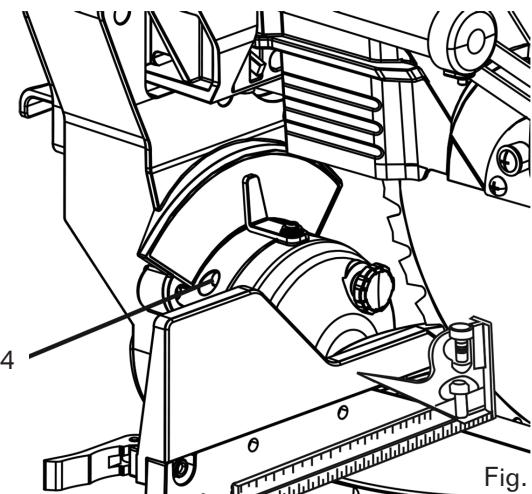

Fig. 16
5. If the blade is not 33.9° to the miter table, tilt the cutting arm to the right, turn the hex bolt (4) at the rear of the saw in or out with a 3 mm hex wrench until the blade is 33.9° to the table. (Fig. 16)